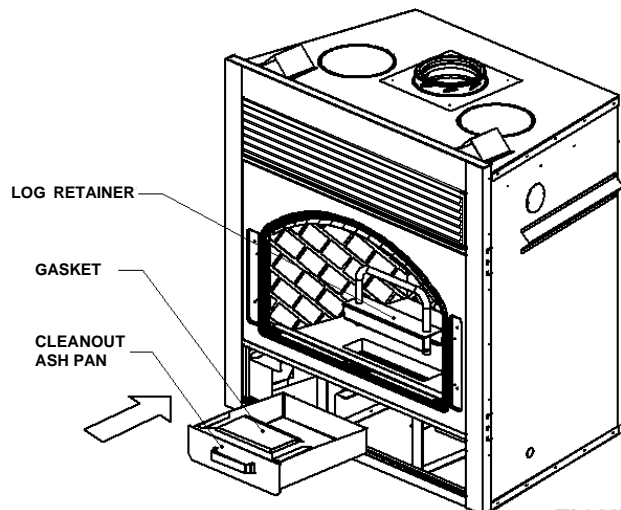

FIGURE 35
6. Dispose of the ashes in the previous mentioned manner and replace the ashpan in the reverse removal steps (See Figure 35).